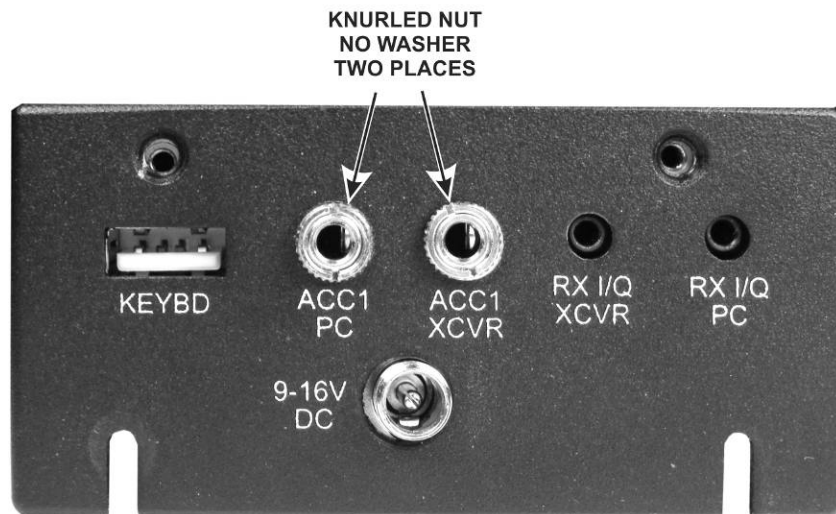
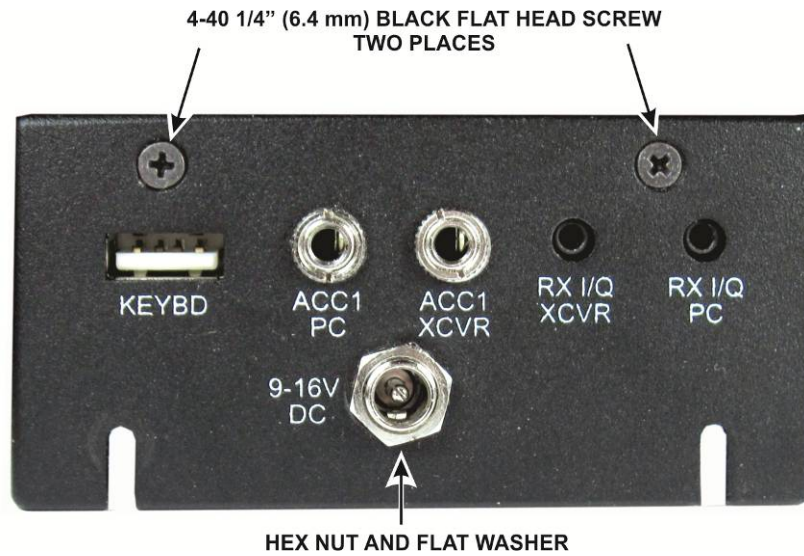

Figure 38. Mounting the Left Side Panel Part 1.
Figure 39. Mounting the Left Side Panel Part 2.
- Add the hex nut and washer on the power connector and the two flat head screws as shown in Figure 39 to complete mounting the left side panel.
To remove the boards, first remove the nuts on the connectors on the left side panel, and then the two screws holding the side panel on the front panel assembly (See Figure 38 on page 56 and Figure 39 on page 57).